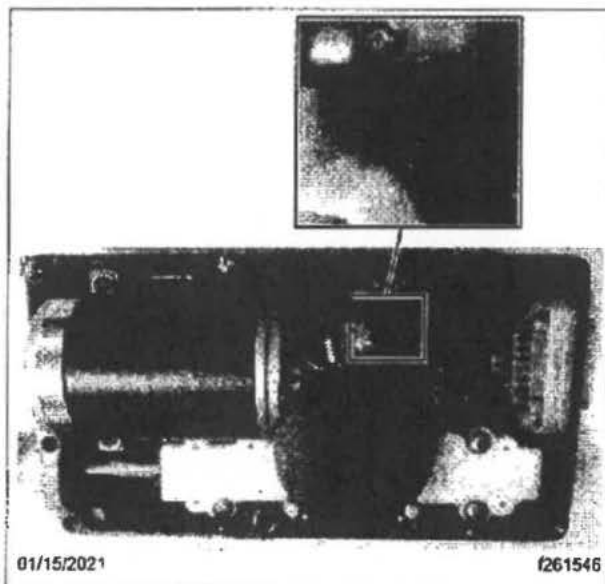

**Fig. 3, IDC Connector Port Location**
9. Connect the Orscheln® ORSEA02017-01 programmer cable into the 5-pin insulation-displacement connector (IDC) on the actuator printed circuit board (PCB). See Fig. 3.